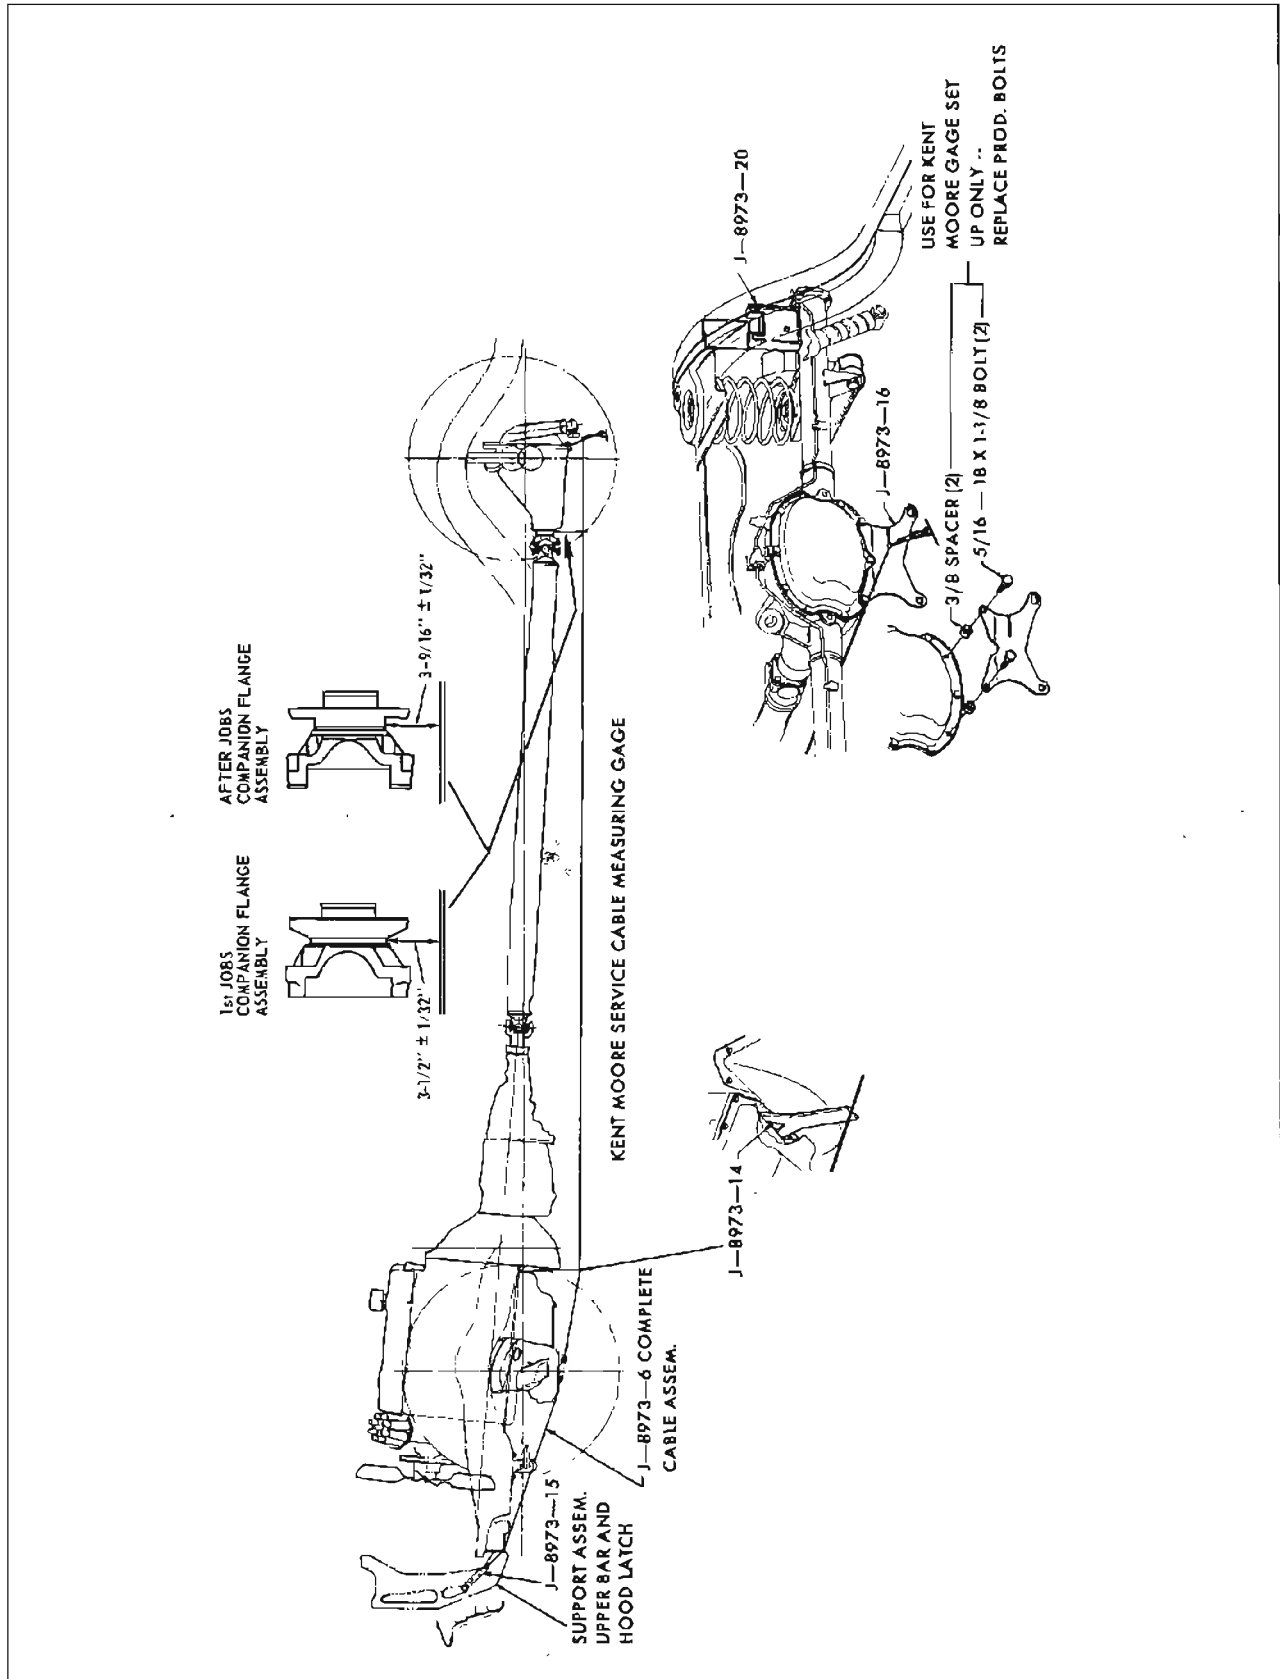

Figure 6-53—Checking Rear Universal Joint Angle
to settle until axle housing contacts block. NOTE: Use same blocks for Estate Wagons and Sedans. See Figure 6-53.
3. Engage front attaching Bracket J-8973-15 in lower opening of vertical center support assembly located at front of radiator. Hook bracket into bottom of opening. See Figure 6-53.
4. Place Engine Height Plate J-8973-14 so that the upper end bears against the engine oil pan between the two rear oil pan bolts. See Figure 6-53. Place the cable in notch of height plate, pull cable tight and hook into rear bracket so one of the stops on the cable is to the rear of the bracket slot. It is important that the cable is fully in the slot and is taut and free of kinks.
tance from cable to surface immediately in front of slinger on rear pinion flange. The correct dimension is given in Figure 6-53.
6. If the distance measured in the preceding step is not within tolerances, adjust as follows: Loosen nuts retaining cam bolts which are located at rearward ends of each upper control arm. Turn both loosened cam bolts an equal amount to move rear universal joint up or down. When universal joint is positioned to give the proper vertical dimension on Alignment Set J-8973, tighten nuts and torque to 60-85 ft. lbs. See Figures 6-53 and 54.